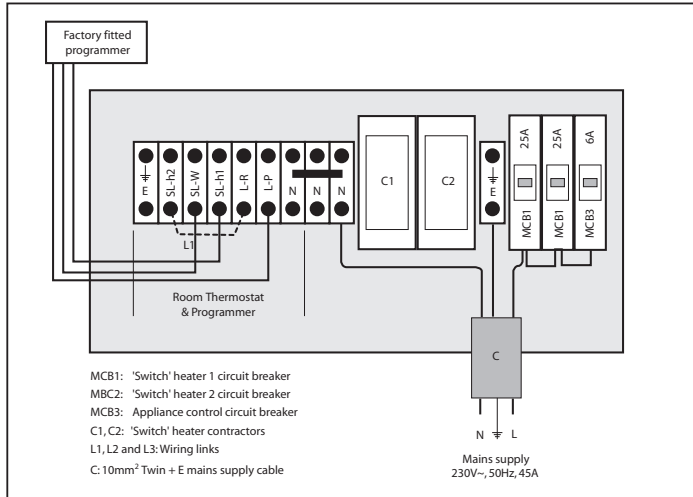

Figure 4.4A Appliance wiring panel with factory fitted Programmer
- Remove link L1 from terminals labelled 'L-R' and 'SL-h2' (see figures 4.4A).